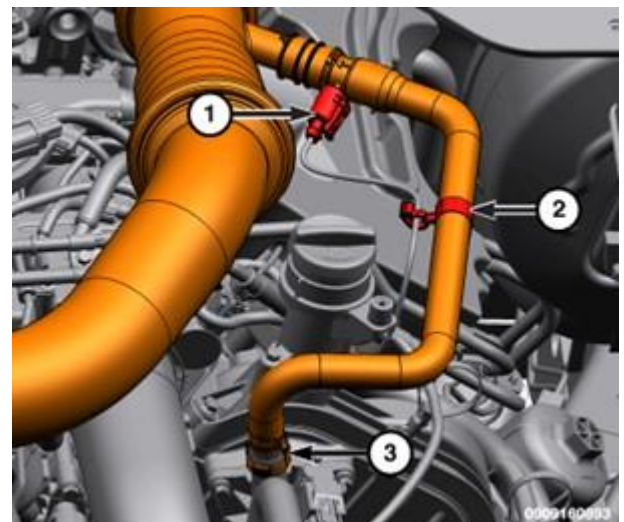

Figure 182 – Clean Air Hose
15. Disconnect the crankcase breather hose (3) (Figure 182).
16. Disconnect the Closed Crankcase Ventilation (CCV) heater wire harness connector (1) and detach the wire harness retainer (2) (Figure 182).